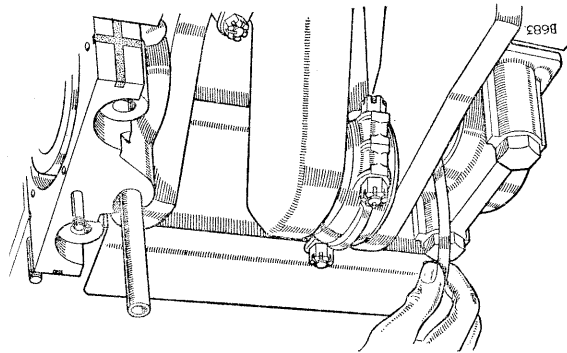

Fig. A-17—Checking crankshaft end-float
4. Check the crankshaft end-float with a feeler gauge (Fig. A-17); adjust at centre bearing by selective assembly of thrust washers to give .002 to .006 in. (0,05 to 0,15 mm) end-float. If the crankshaft end-float reading obtained is not within the limits, fit suitable oversize thrust bearings. The variation of thrust bearing thickness at each side must not exceed .003 in. (0,07 mm) to ensure that the crankshaft remains centralised.